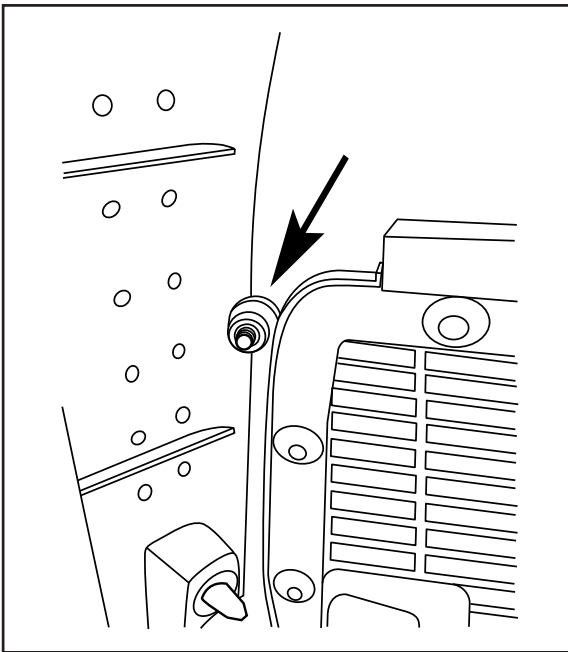

Fig. 19
19. When snug, the rubber well nut will expand as shown (Fig. 19).